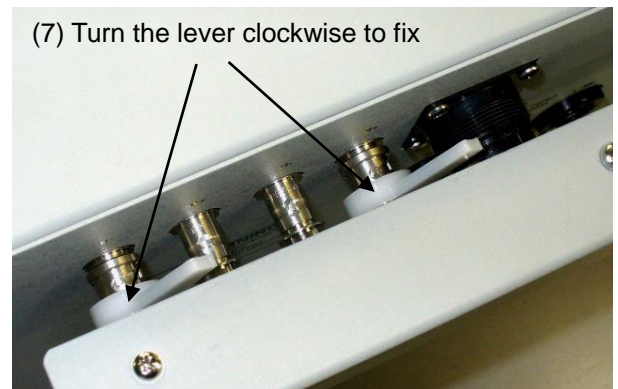

Fig. 4-10 Fixing SY-963
- (7) Turn the lever clockwise to fix the connector. (See Fig. 4-10)